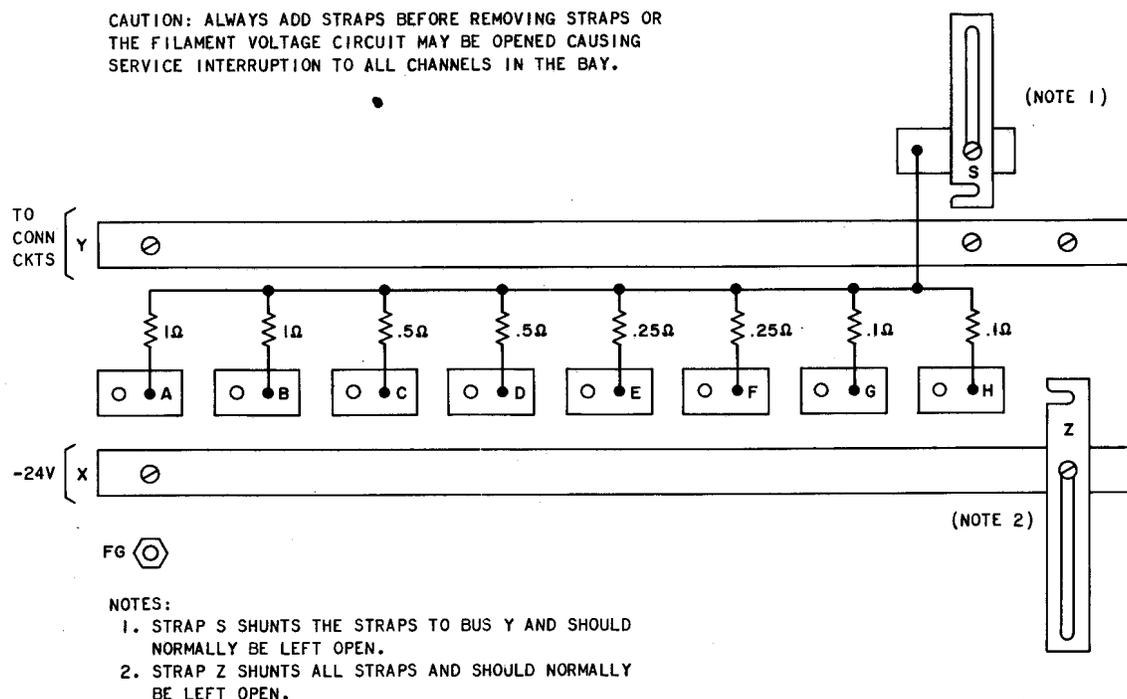

Fig. 3—SD-70626-01 Filament Voltage Panel Diagram
- (3) Locate the total current drain on Table H and check strapping of filament supply panel at the top of the bay.
- (4) If the bay is not properly strapped, restrap according to Table H and Fig. 3.